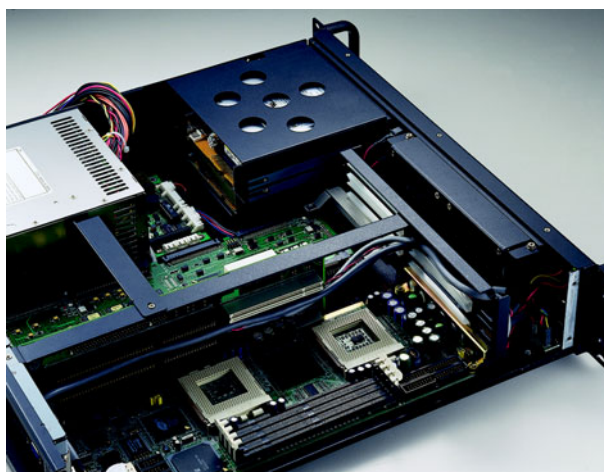
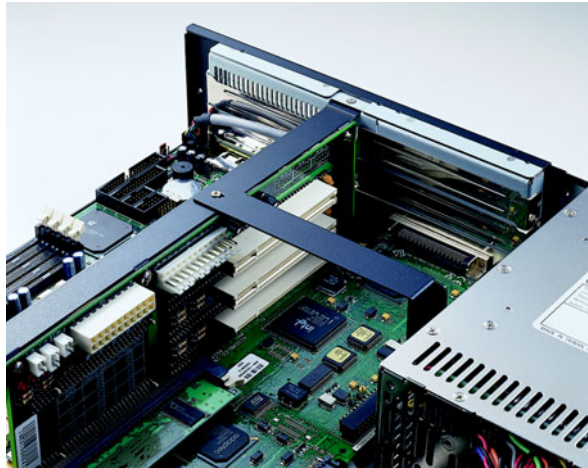

Figure 2.3 Installing a CPU card
Figure 2.4 Installing the add-on card
4. Align and fix the screw to tighten the card to a fixed position, refer to Figure 2.3 and Figure 2.4.